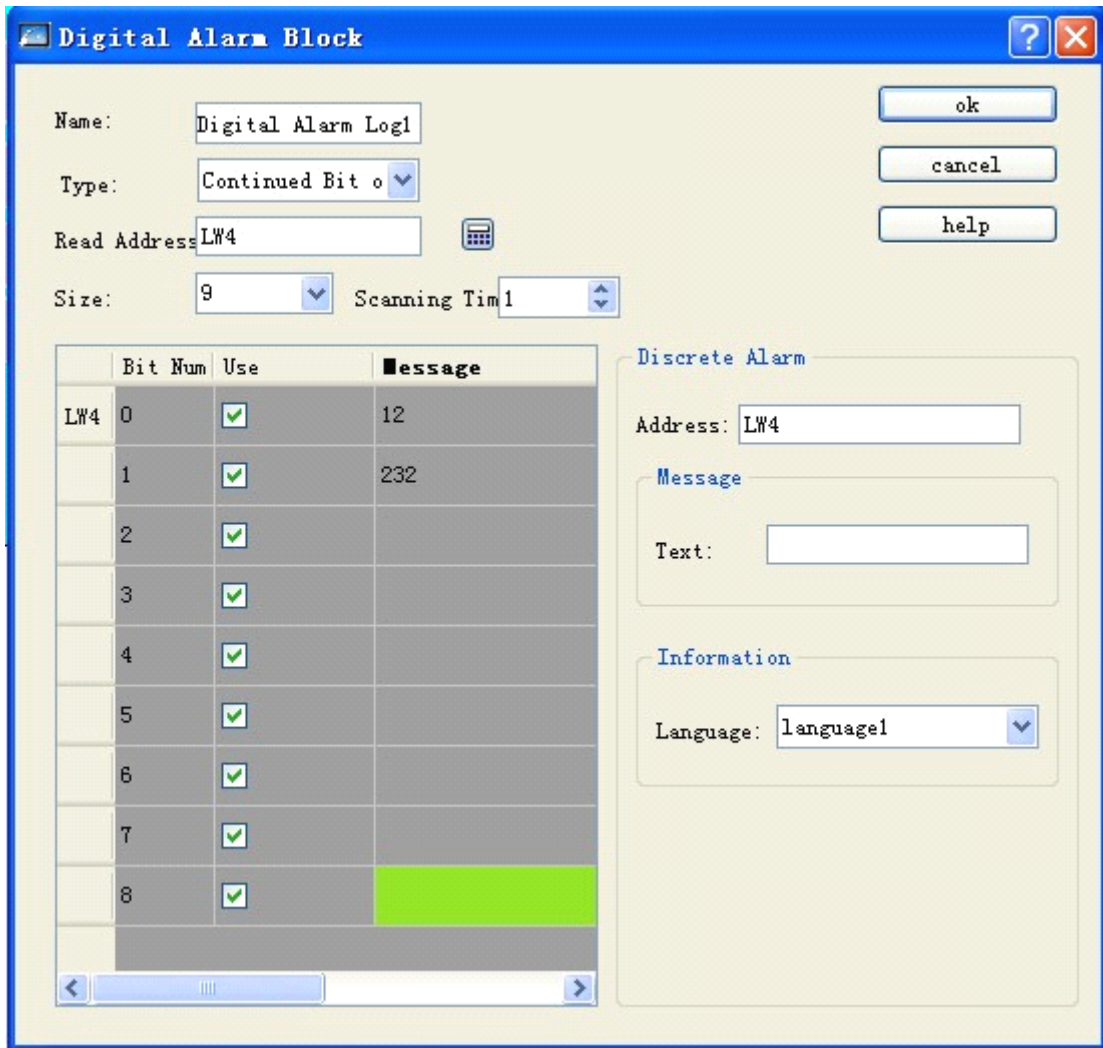
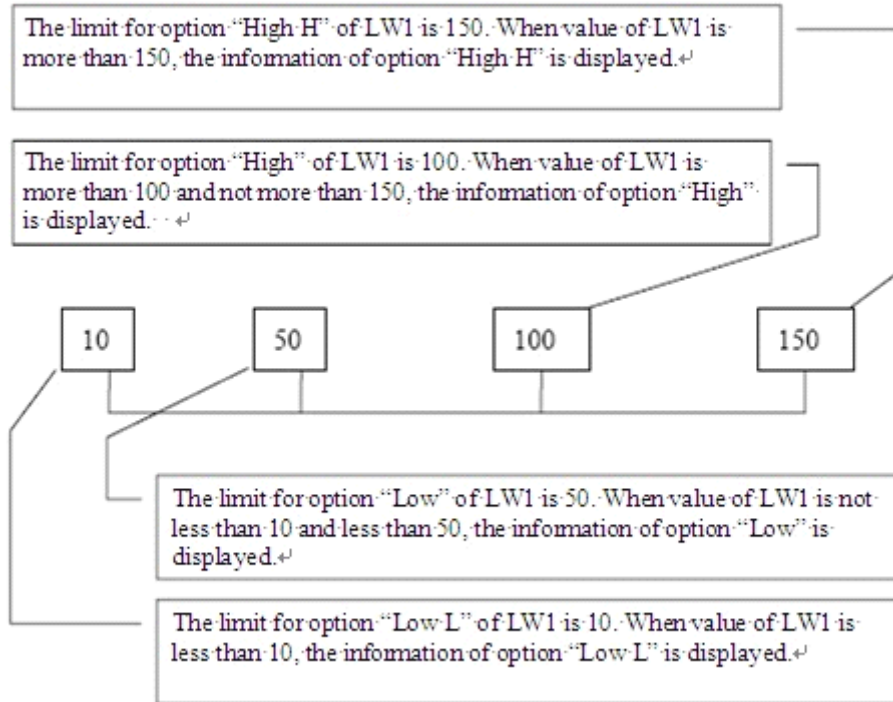

Figure 7-24 The dialog box of digit alarm at “word value”
Figure 7-27 Area division of four address values of LW1
If the type is “word value”, it is shown as Figure 7-24.
- Click every item in list box. Move mouse to right “Limit” and enter one data into it. Then, move mouse to the edit box “Text” in right module “Message” and enter the corresponding text information in the box, i.e. alarm content. Suppose the information set here (i.e. alarm content) is as shown in figure 7-24. From this figure, we can see that each address value can be divided into 4 areas (i.e. data subarea of alarm address): low low, low, high and high high. In following content, we take address LW1 for example to describe the meaning of these 4 areas (all the option “Use” for four options of address LW1 is selected), as shown in figure 7-27.